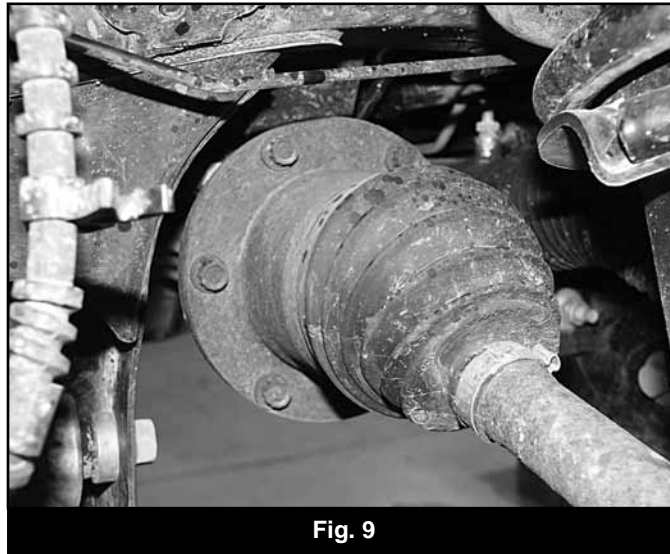

Fig. 9
14. Remove the CV axle flange bolts (Fig 9). Retain bolts.